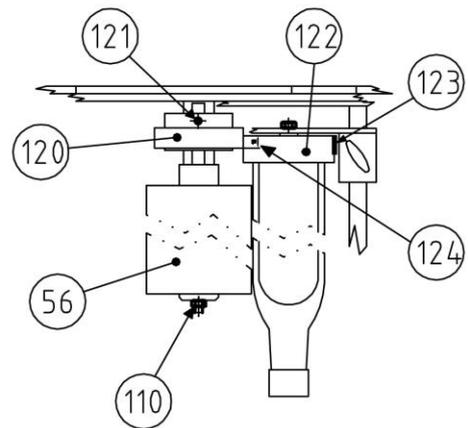

Figure 8.2 Technical drawings of the kit for square/shaped formats
9. Turn the basket anticlockwise (ref. figure 8.2 condition CLOSE) and wedge it into the lock B (ref. photo 8.7)
Warning: the driving pulley must lean against the bottom holding plate of the container making a contact of at least 10 mm (ref. Figure 8.2 section X); if not, loosen the locking pin of the pulley, arrange the correct placement and tighten the pin again.